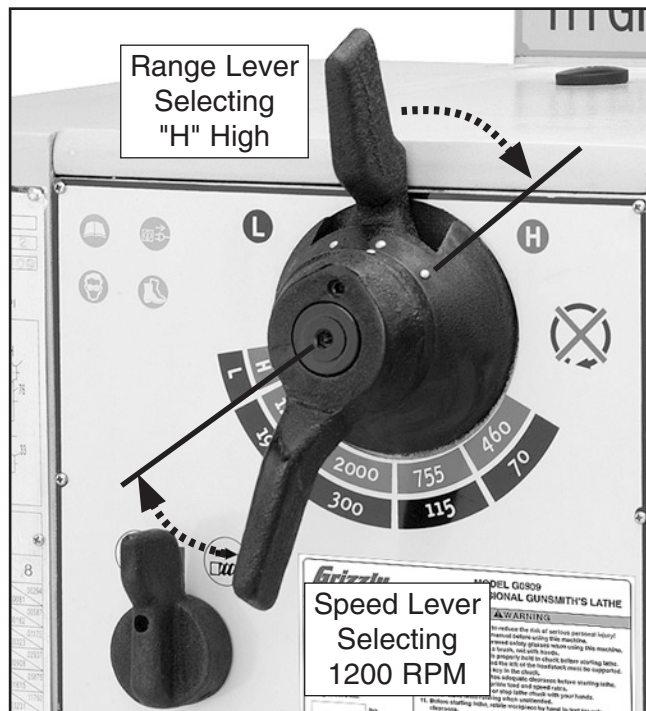

Figure 48. Spindle speed levers.
This lathe is equipped with two levers shown in **Figure 48** that are used to achieve eight spindle speeds. **Never move either lever while the spindle is rotating, or gear clash and tooth fracture may occur.** When the lathe is stopped, if the levers do not fully engage, the spindle must be slightly rotated by hand.
If the spindle speed range lever (see **Figure 48**) is positioned in low "L", the four spindle speeds listed in the black indicator are available. If the range lever is positioned in high "H", the four spindle speeds listed in the red indicator are available.
The spindle speed lever shown in **Figure 48** has eight speed selections depending on if the spindle speed range lever is in high or low.
3. Move the spindle speed lever to the left so it is over the required speed, for example 1200 RPM is being selected in **Figure 48**.